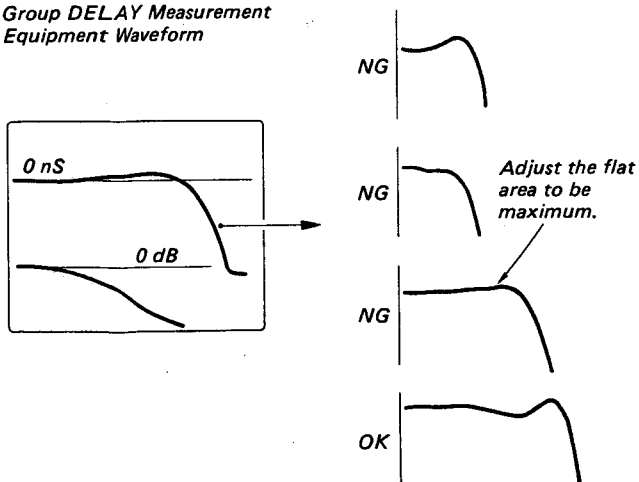

Fig. 5-72.
3. Adjust the group DELAY characteristic of the B-Y L.P. filter so that the flat area is maximum by turning L4 and L5 on the BA board. (See Fig. 5-72.)